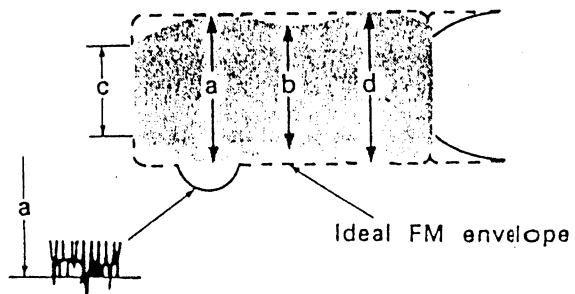
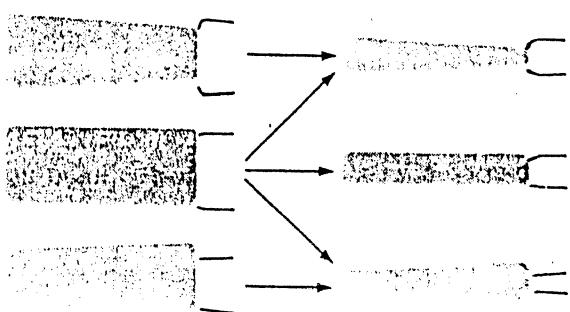

Fig.15 FM waveform (max. output)
Fig.16 Normal waveform examples
- d) Refer to Fig.15. Read the level of portion (a) of the waveform. If the waveform is serrated at point (a), read the value at the most uniform serrations as shown above in Fig.16.
- Observe the FM waveform as in the previous section (I-A) and turn the Tracking control. The waveform variation should be nearly parallel as shown in Fig.16.